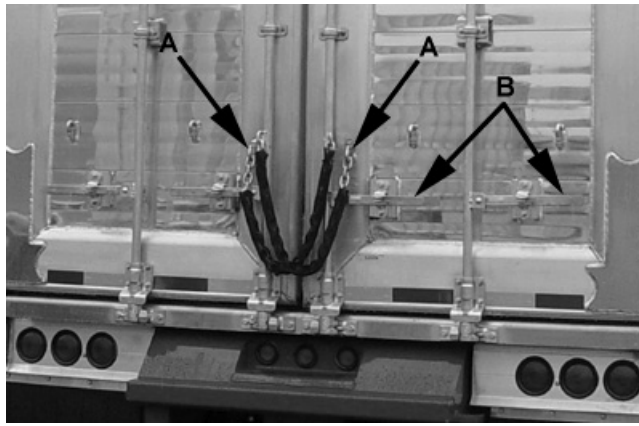

Figure 5-5 Open Double Doors
2. Remove door chains from hooks (A), release latches (B) and carefully open right side door. See figure 5-5.